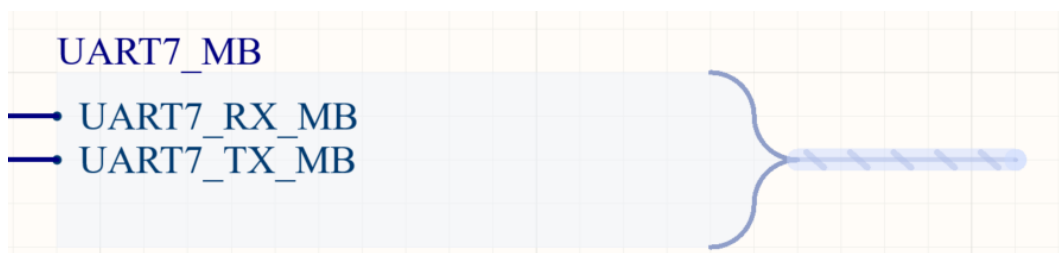

Figure 10. Signal Harness attached to the Harness Connector
- Right-click twice to exit the command. Your Signal Harness should look similar to what is shown in Figure 10.